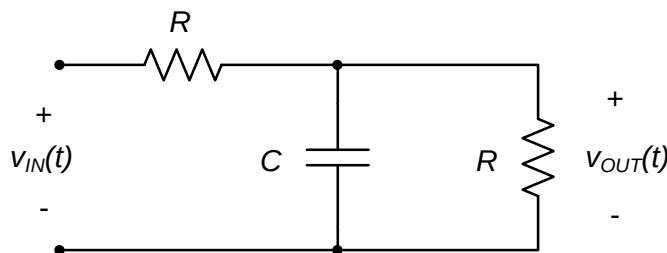

Figure 1. Passive low-pass filter circuit.
The circuit of interest in this lab project is shown in Fig. 1.
Sketch a straight-line approximation to the Bode plot for the circuit of Fig. 1 if  $R = 2.2\text{k}\Omega$  and  $C = 100\text{nF}$ .
- a. Construct the circuit of Figure 1 if  $R = 2.2\text{k}\Omega$  and  $C = 100\text{nF}$ .